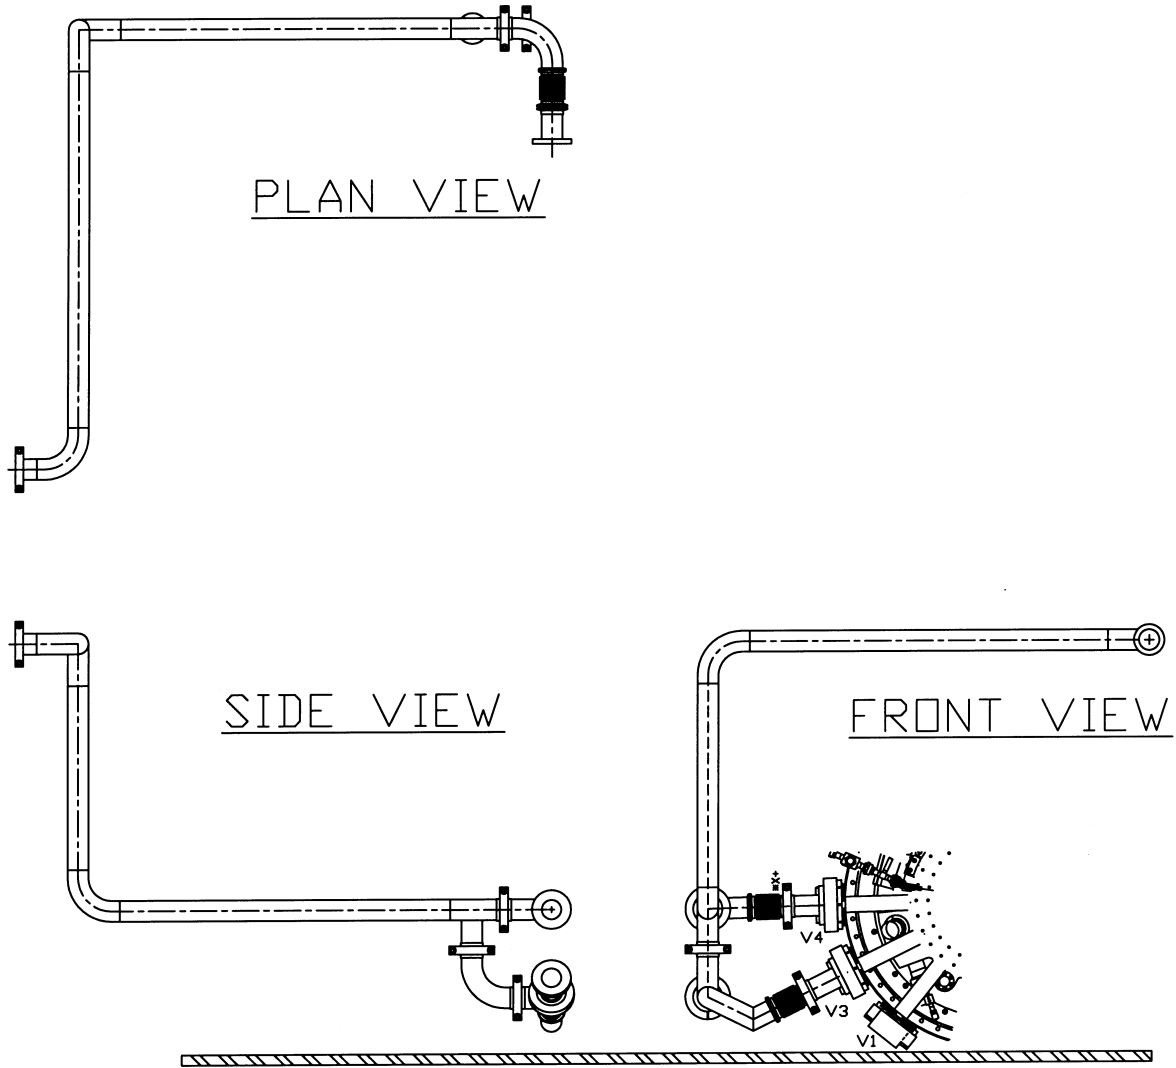

Figure 2
- L.5 Vent and disconnect spinup exhaust lines (see Fig. 2):